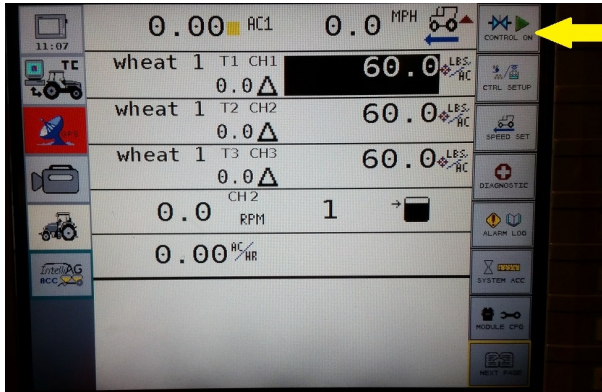

Figure 50
- 3) Turn Control Channel **ON**. (Figure 50)